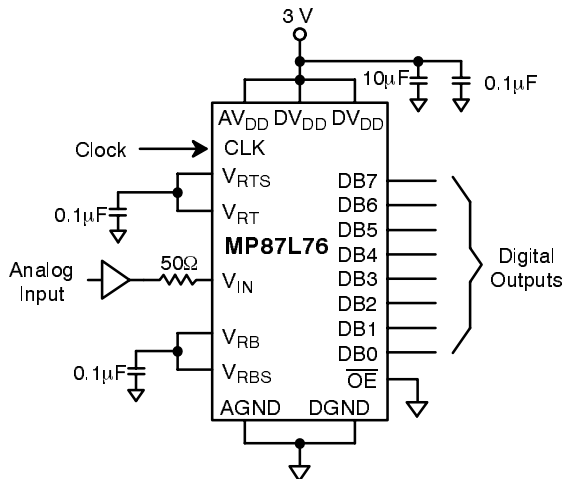

Figure 5. Typical Circuit Connections
AV_{DD} and DV_{DD} should be connected to the sample power supply source (Figure 5.). The power supply (AV_{DD} and DV_{DD}) and reference voltage (V_{RT} & V_{RB}) pins should be decoupled with $0.1\mu\text{F}$ and $10\mu\text{F}$ capacitors to GND, placed as close to the chip as possible.
2. It is important to note that op amps have inductive output impedances at high frequencies which is a consequence of the emitter impedance of the typical push-pull output stage. The resulting transient ringing should be damped by inserting a resistor in series with the ADC input - typically about 50Ω . See Figure 5. The exact value may be obtained from the op amp manufacturer's data sheet.